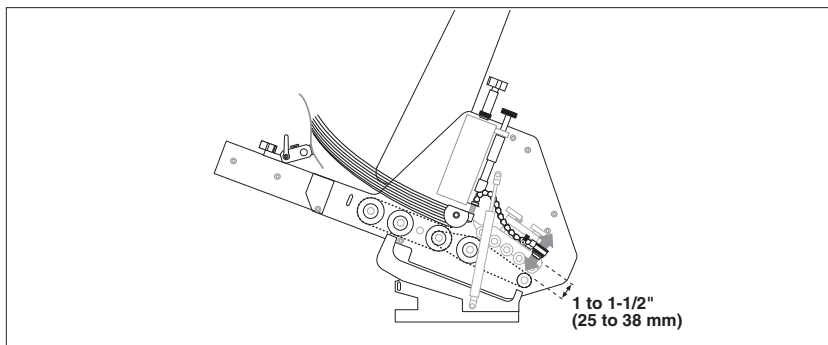

Figure 2-17. Adjusting Photo Sensor for Sheet Stopping Distance
2. Position the photo sensor at a distance between 1 to 1-1/2 in. (25 to 38 mm) from the product. Initially use the adjustable arms on the extension assembly (Figure 2-17). *When only the green LED is On, you will know when the photo sensor is positioned properly. The amber LED is On when product is staged.*